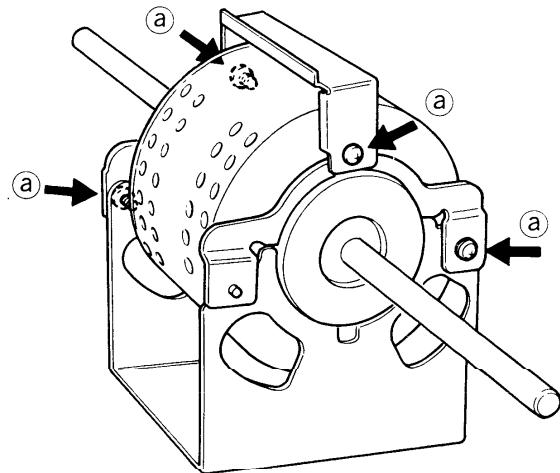

Fig. 15
3) Remove the four screws (a) fixing the motor. Fig. 15